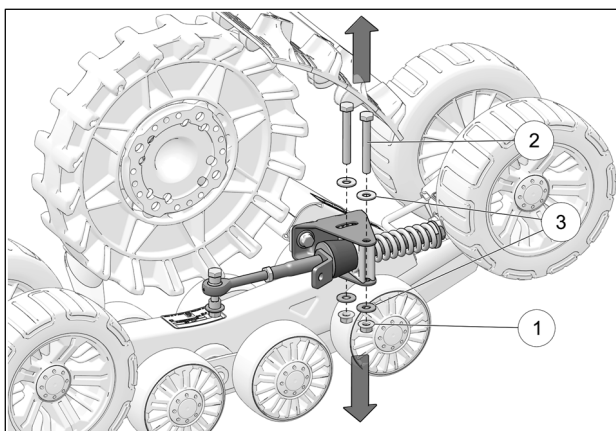

Fig. 13
4. Loosen and remove nuts (1), bolts (2), and washers (3) securing anti-rotation arm to front Track system. See Fig. 13